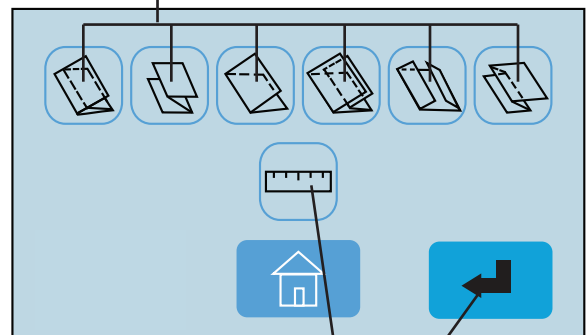

Fig. 10
10. Select the standard fold type needed (Fig. 10) and press the “Enter” icon  to set the fold stop positions. When the fold stops are set the folder will return to the home screen. The selected fold icon should now be displayed.